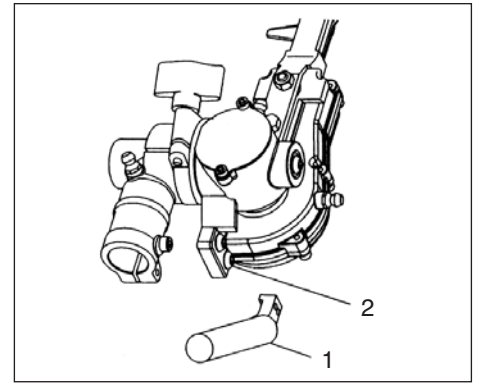

Fig.1-2B
Installation of support handle (1) (Fig.1-2B)
1. Remove 2pcs of hex. hole screw (2) from gear case.
2. Install support handle (1) onto gear case by removed hex. hole screws (2).